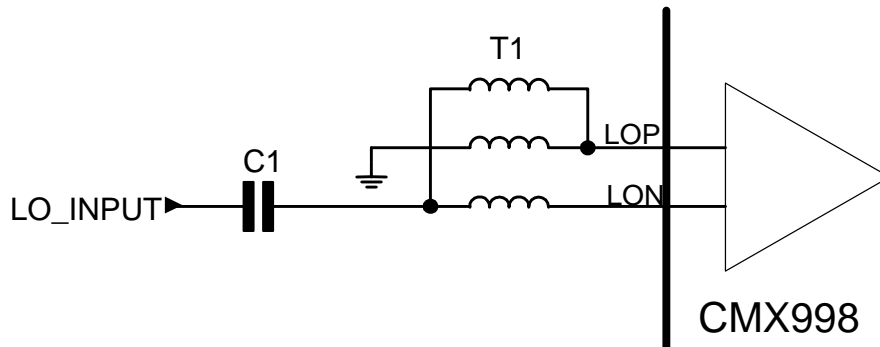

Figure 5 – LO Input Configuration using a 1:1 Balun
1. The configuration of the 1:1 balun used at the LO input has to create a dc path to analogue GND for both LO inputs, LOP and LON, as shown in Figure 5.